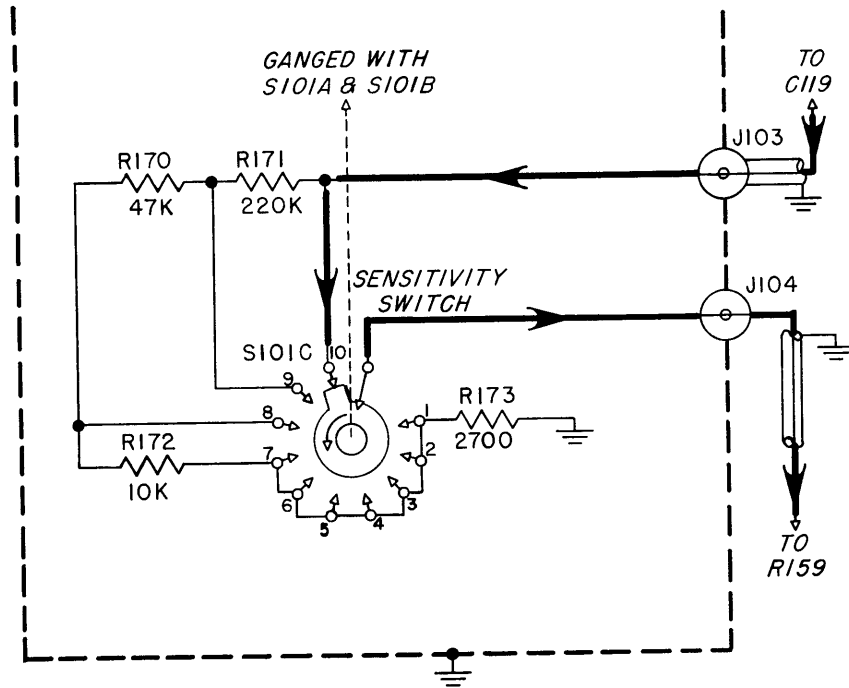

Figure 2-6. Chopper Attenuator Network, Simplified Schematic Diagram
f. CHOPPER ATTENUATOR (See Figure 2-6).—The rectified R.F. voltage from the type K11 diode Y101 is connected through the filter R121 and C119 to the chopper attenuator composed of S101C and its associated resistors. Nine steps of attenuation are provided. In order to prevent amplifier overload a portion of the attenuation takes place at the input circuits preceding the R.F. amplifier. The remainder is accomplished by the section of the attenuator in the chopper input circuit. Both attenuator networks are actuated by a common shaft and the combination provides an input field strength range of from 50 microvolts to 30 volts of R.F.